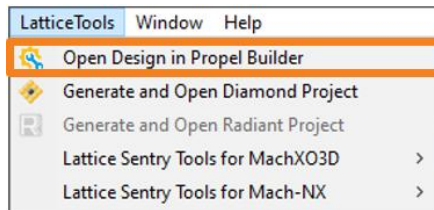

Figure 3.14. LatticeTools Menu
- Choose **LatticeTools** > **Open Design in Propel Builder** (Figure 3.14).